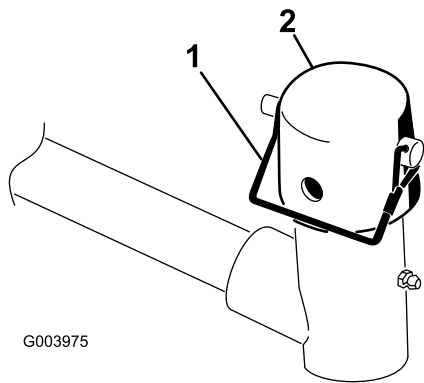

Figure 10
7. Remove the snapper pin and the cap from the lift-arm-pivot yoke (**Figure 10**).
11. Secure the cap and the carrier-frame shaft to the lift-arm yoke with the snapper pin (Figure 10).